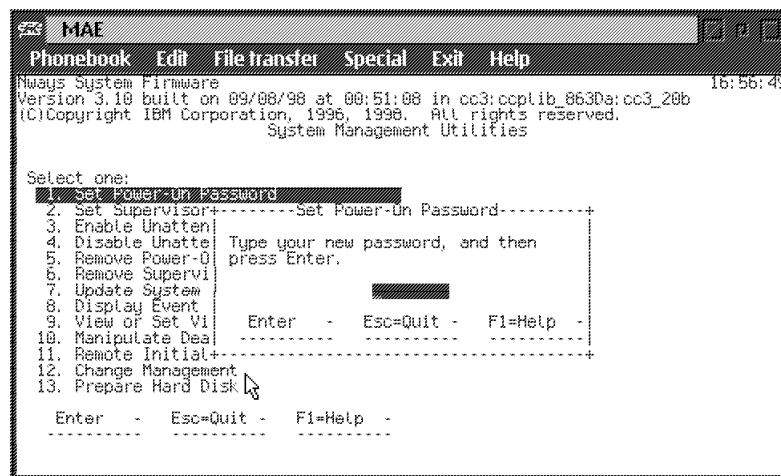

Figure 5-7. Set Power-On Password Panel
**1** Select **1. Set Power-On Password** from the utilities panel. The Set Power-On Password panel is displayed (Figure 5-7).